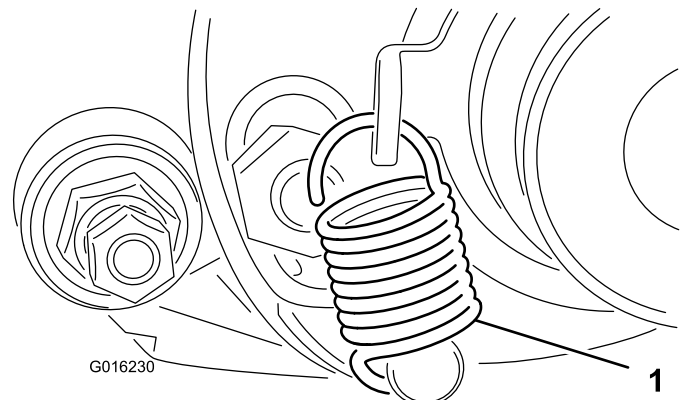

Figure 13
29. Rotate the idler pulley until the shift lever spring can be hooked into the hole in the pulley bracket and onto the stud as shown in Figure 13.